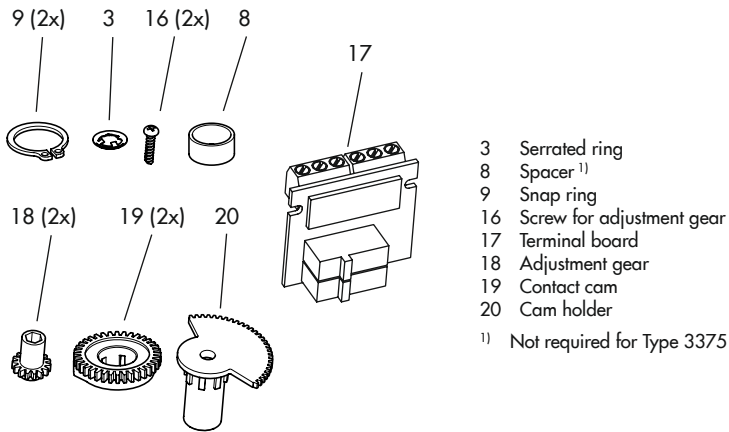
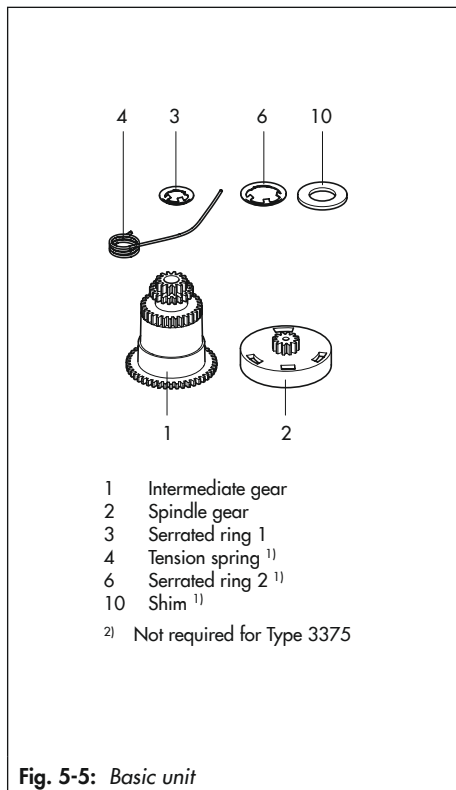

Fig. 5-4: Mechanical limit contacts
Fig. 5-5: Basic unit
(see Fig. 5-5)
(see Fig. 5-4)
The contact cams (19) are ready-mounted to the cam holder (20) and the retaining rings (9) to form the contact cam unit (21, see Fig. 5-4).
Parts from the basic unit and the retrofit kit (see Fig. 5-4 and Fig. 5-5) are required.
Parts from the retrofit kit (see Fig. 5-5 on page 5-5) are required. Intermediate gear (1), spindle gear (2) and serrated ring (3) from the basic unit (see Fig. 5-5 on page 5-5) are already installed.
3. **Continue as described in item 6 on page 5-6.**
If the actuator does not have limit contacts, parts from the retrofit kit (see Fig. 5-5 on page 5-5) are required.